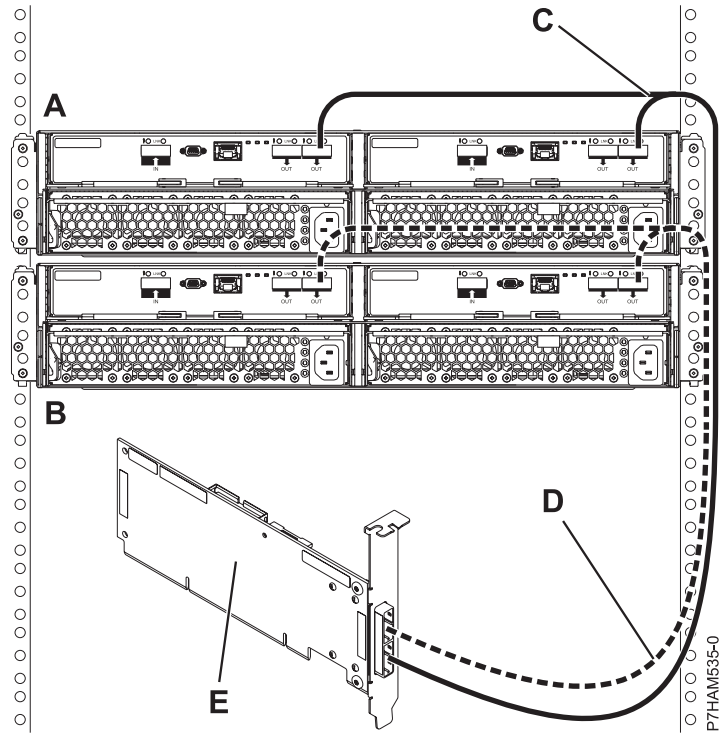

Figure 29. Mode 1 connection of two 58/87 disk drive enclosures by using YO cables to a single SAS adapter
- j. Perform the mode 1 connection of two 58/87 disk drive enclosures (**A and B**) by using YO cables (**C and D**) to a single SAS adapter (**E**) as shown in Figure 29 on page 27.